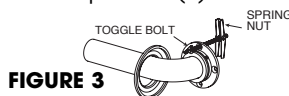

FIGURE 3
2. Use the 3/8-inch power drill and 5/8-inch drill bit to drill six (6) holes where marked. **NOTE:** *If installing Grab Bar over ceramic tiles, the 5/8-inch carbide drill bit will be needed for drilling through the tile, in order to prevent damage to tiles. Once a hole has been drilled through the tile, use the 5/8-inch drill bit to drill through the backing support for the tile.*
3. Insert one (1) **TOGGLE BOLT** through any one of the mounting holes on one end of the Grab Bar. Start a spring nut on the end of the **TOGGLE BOLT** as shown (see **Figure 3**), screwing it onto the bolt about three turns. Repeat this step for two (2) **TOGGLE BOLTS** on that same end of the Grab Bar.